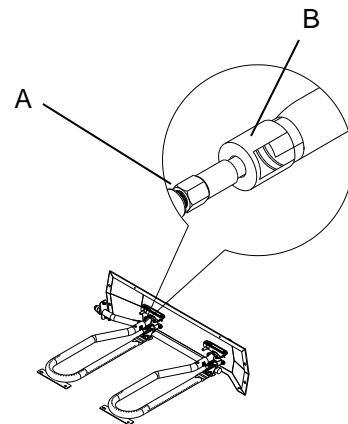

Fig.11
2. Make sure the orifice spud (A) is inside the burner venturi (B) as shown in Fig. 11.